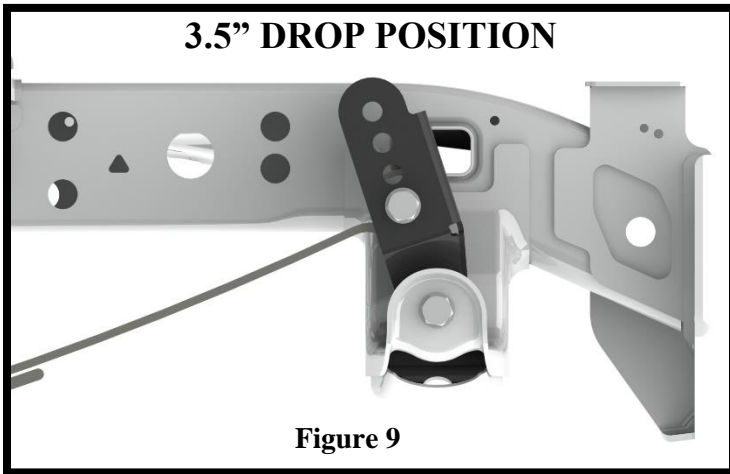

Figure 9
- 7) Attach the QA1 rear shackle to the factory rear frame mount using M16 x 2.0, 120mm long, with two M16 washers per connection and one taller nyloc nut per connection. **(Figure 9 & 10)**
- 8) Attach the rear leaf spring connection to the QA1 rear shackle in the correct hole for the amount of drop desired. **(Figure 9 & 10)** Secure using M16 x 2.0, 120mm long hardware with two washers and one short nyloc nut per connection. While the rear leaf/shackle hardware is the same bolt size and length, the low profile M16 nuts should be installed on the rear leaf to shackle connection and not the shackle to frame mount. The additional two holes between the shown drop range represent a 5/8" height adjustment from the two shown positions.